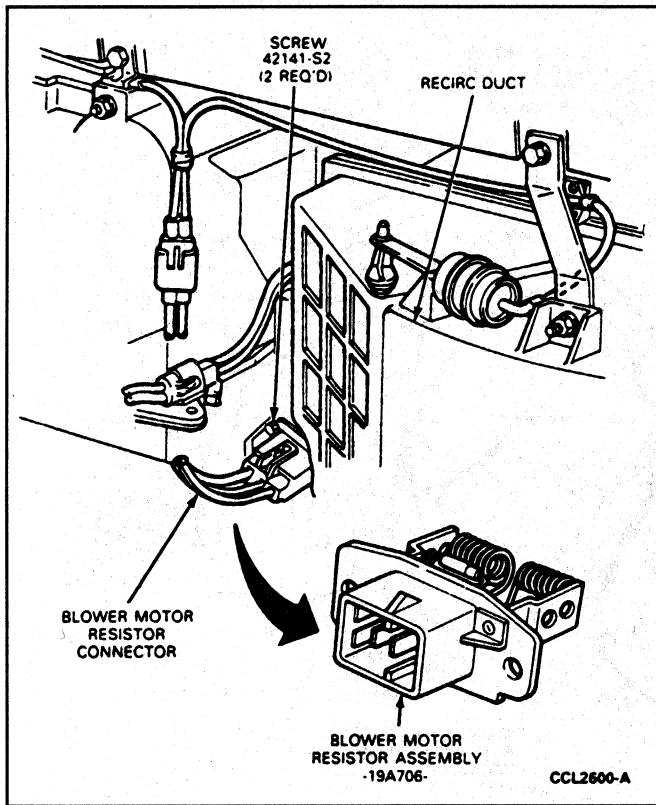

FIG. 35 Blower Motor Resistor
The blower motor resistor and thermal limiter assembly is installed on the passenger side of the evaporator case behind the glove compartment (Fig. 35). Use only the specified resistor assembly for service replacement. Do not apply sealer to the resistor board mounting surface.
15. Disconnect blower motor and resistor (Fig. 35).